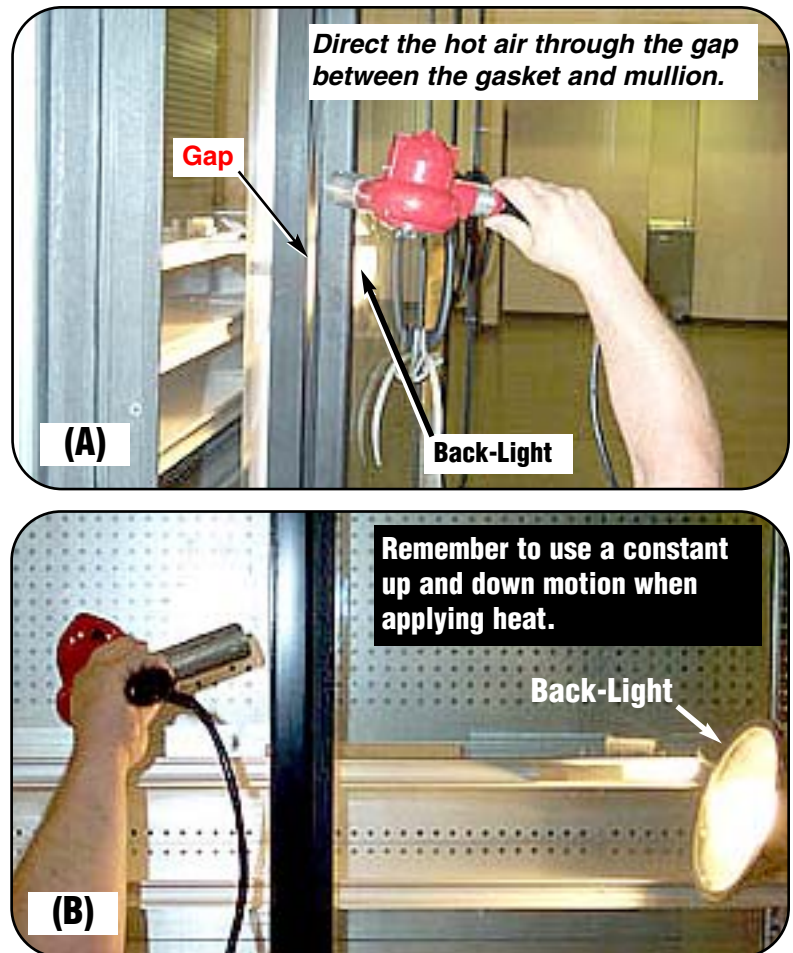

Figure 13. Applying Heat to Gasket
If possible, direct the hot air onto the gasket and also through the gap between the gasket and mullion. This will help to heat both sides of the gasket. Refer to Figure 13(A) and (B).